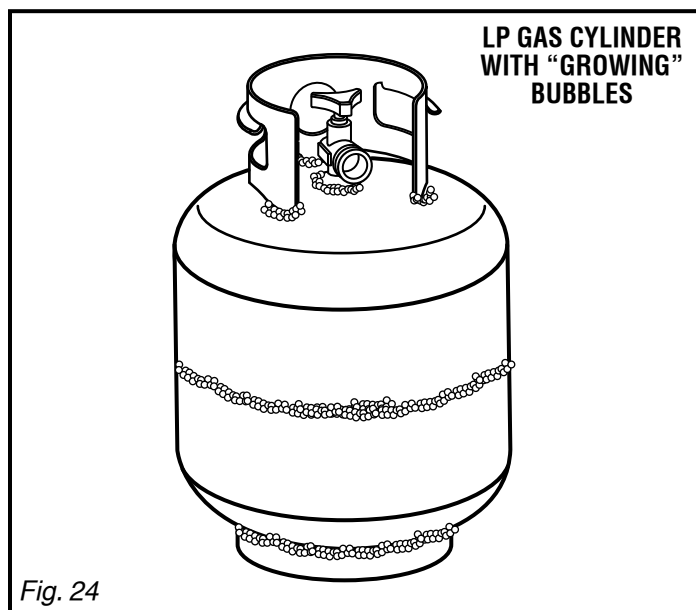

Fig. 24
See Figure 24.
- Using a clean paint brush and a 50/50 mixture of mild soap and water, brush soapy solution over areas indicated by arrows in figure 24.